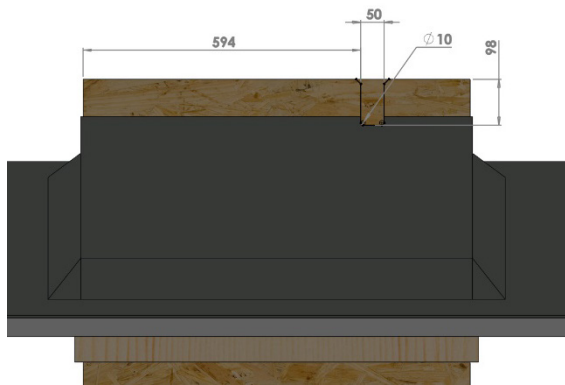

Figure 34 – Heat exchanger position.
1. Mark out shape as per diagram – *see figure 34*.